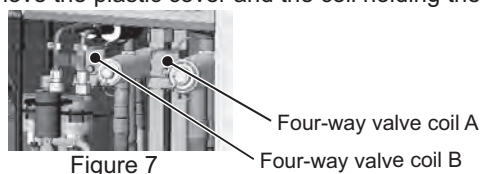

Figure 7
(7) Remove the plastic cover and the coil holding the four-way valve. (See Figure 7.)